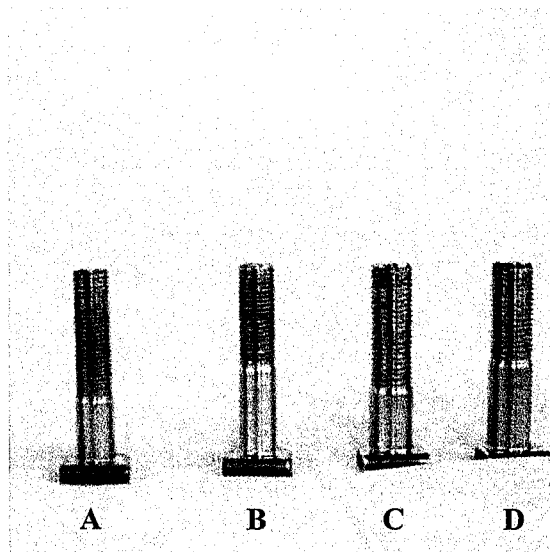

Figure 11 – Bolt Identification
- a. Below, the main torque carrying bolts are identified (*See Figure 11*). Note the difference in bolt diameters. Parts "A" & "B" have .375" shank diameters (Items 4 or 5), while Parts "C" & "D" have .4375" shank diameters (Items 12 or 13). Furthermore note the difference in grip lengths for each diameter bolt.